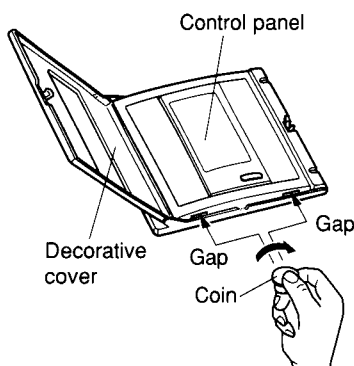

Fig. 42
- ④ Removing the Control panel from the Back case
- a. Open up the decorative cover, and you will see 2 gaps at the bottom of the control panel. Insert a coin into these gaps and twist it to open the control panel. (Fig. 42)